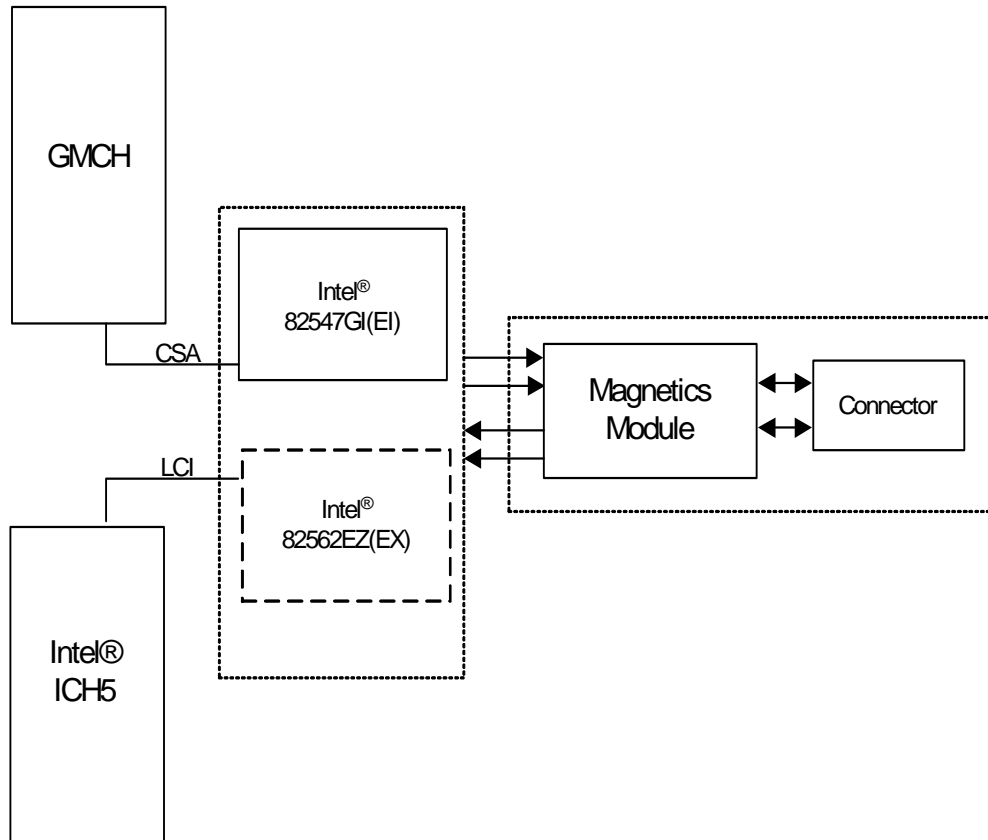

Figure 1. ICH5 Platform LAN Connect Sections
The 82562EZ(EX) Platform LAN Connect Device and the 82547GI(EI) Gigabit Ethernet controller employ different system interfaces, as illustrated in Figure 1.